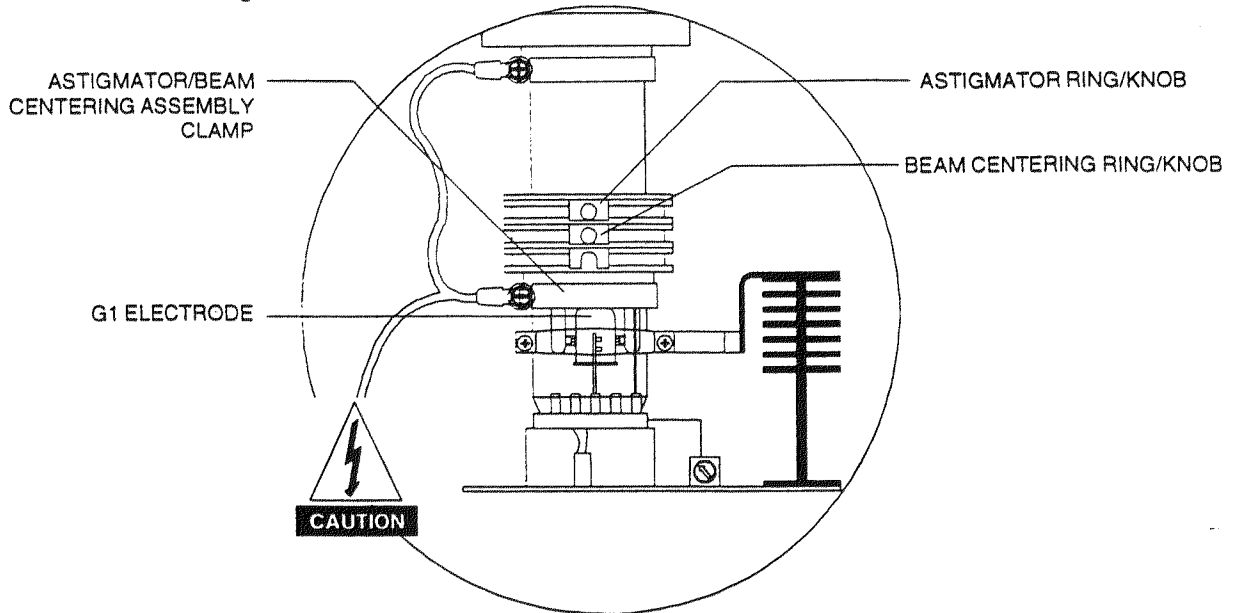
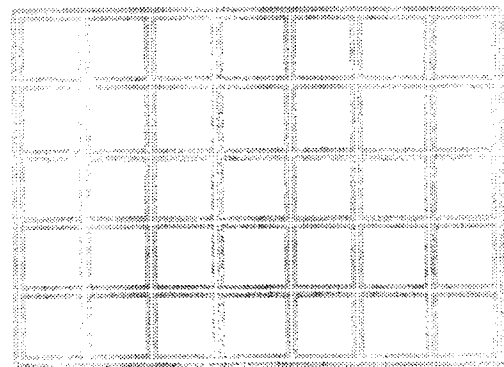

FIGURE 10-33. Astigmator/Beam centering assembly position
FIGURE 10-34.
- STEP 1. Check and position the astigmator/beam centering assembly. The clamp used for securing the assembly should be in-line with the end of the G1 electrode located inside and at the rear of the CRT neck. See Figure 10-33.
- ☒ Adjust the beam center ring, closest to the CRT amplifier (Figure 10-33), by rotating and turning the knob until the bright vertical and horizontal lines in the crosshatch pattern are centered within the de-focused crosshatch pattern or halo. See Figure 10-34.